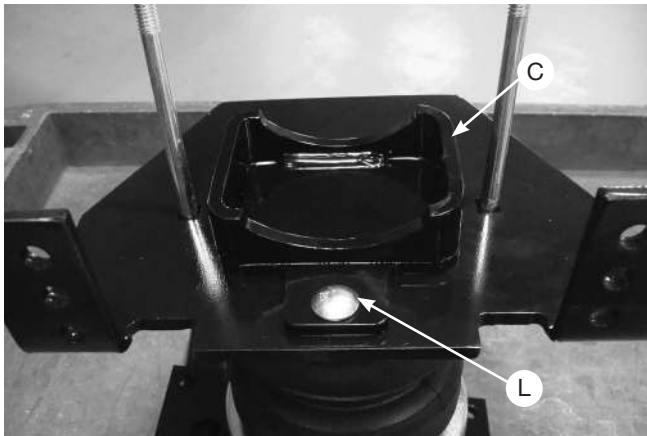
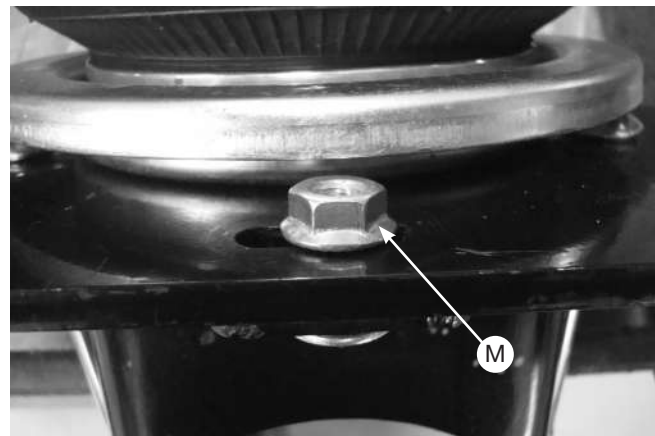

Fig. 13
Fig. 14
6. Install the lower bracket cup (C) onto the lower bracket main plate using the 5/16"-18 x 3/4" carriage bolt (L) (Fig. 13). Cap with 5/16"-18 serrated flange lock nut (M) (Fig. 14) Snug bolt down but leave loose enough for bracket to move freely in slot.